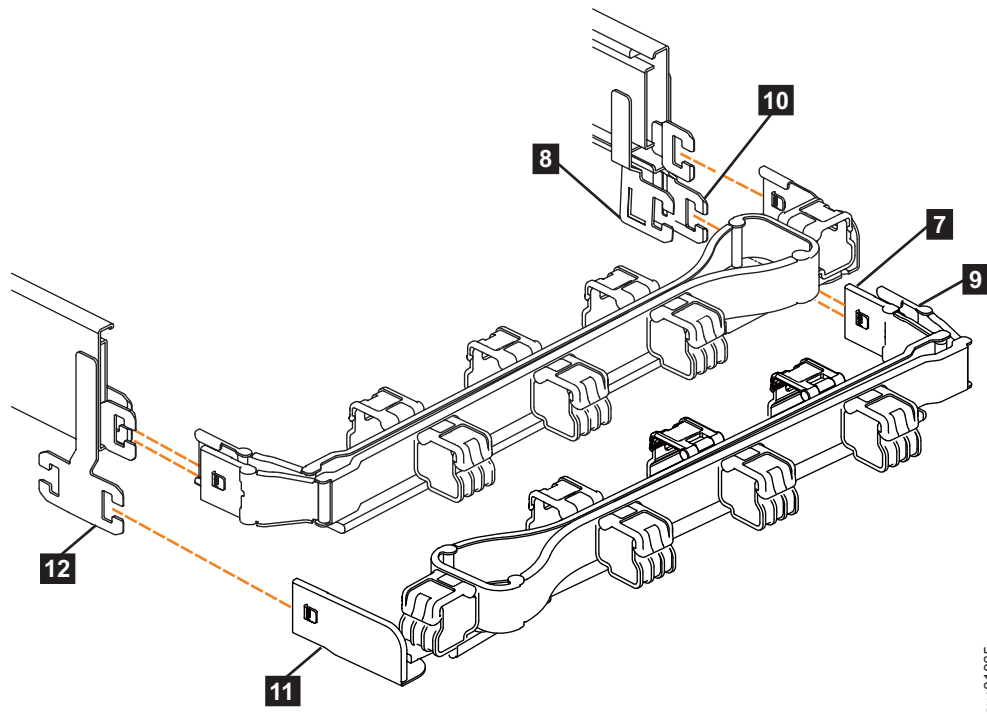

Figure 103. Comparing the location of the components of the CMA assemblies
**Note:** The procedure for attaching the lower CMA assembly is the same as the procedure to attach the upper CMA assembly. However, the connector locations are reversed. For comparison, Figure 103 shows the upper and lower CMA assemblies as they are aligned to the support rails. The support rail connector of the upper CMA attaches to the right rail. The support rail connector of the lower CMA **11** attaches to the left rail.
5. Install the inner connector of the lower CMA assembly (**7**) to the inner member of the right support rail (**8**), as shown in Figure 103.
6. Install the outer connector of the lower CMA assembly (**9**) to the outer member of the right support rail **10**, as shown in Figure 103.
7. Attach the support rail connector on the lower CMA assembly (**11**) to the connector on the left support rail (**12**), as shown in Figure 103. Ensure that the lower CMA assembly is securely attached to the hooks on the end of the support rails.